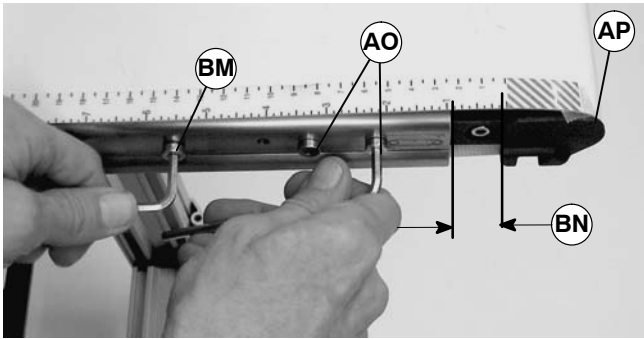

Figure 38
NOTE: The M6 low head screw (BM of Figure 38), which is used for extending the idler spindle assembly (AP) 1" (25 mm) (BN).
- Turn M6 low head screw (BM of Figure 38) clockwise to extend idler spindle assembly (AP) 1" (25 mm) (BN).
4. Repeat steps 2 and 3 for screw (BM of Figures 38 and 43) on opposite of conveyor (V).